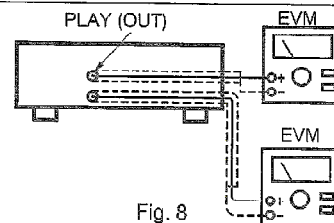

Fig. 8
1. Connect the measuring instruments as shown in Fig. 8.